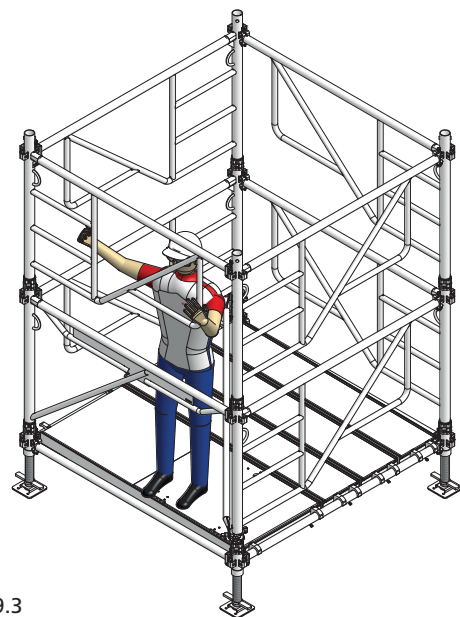

Fig. 9.3
11. Standing on the scaffold platform of level 0, suspend the frames 100 MT for level 2 (Fig. 9.3).